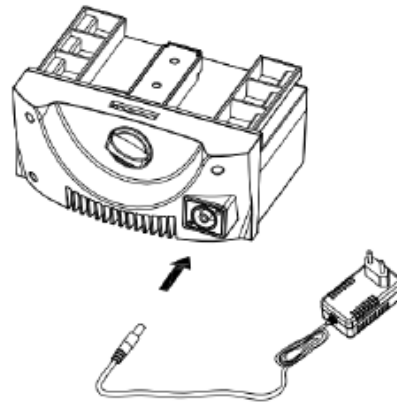

Fig 18
3. Plug the round connector on the charger’s cord into the battery pack. (Fig 18)